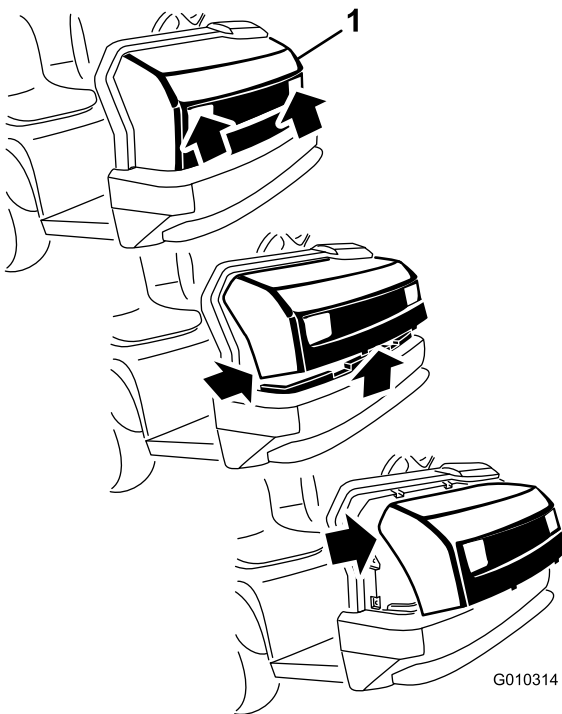

Figure 39
1. While grasping the hood in the headlight openings, lift up the hood to release the lower mounting tabs from the frame slots (Figure 39).
2. Pivot the bottom of the hood upward until the top mounting tabs can be pulled from the frame slots (Figure 39).
3. Pivot the top of the hood forward, and unplug the wire connectors from the head lights (Figure 39).